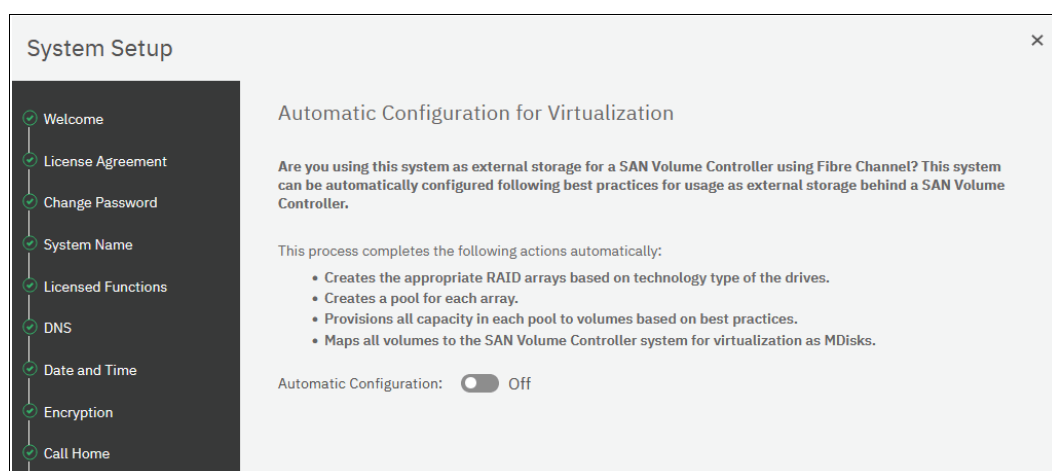

Figure 3-30 Automatic configuration for IBM SAN Volume Controller
20. The option is available to automatically configure the system if it is used as FC-attached back-end storage for IBM SAN Volume Controller. If you plan to use the system in stand-alone mode (not behind an IBM SAN Volume Controller), leave Automatic Configuration turned off, as shown in Figure 3-30. Click **Next** to continue.